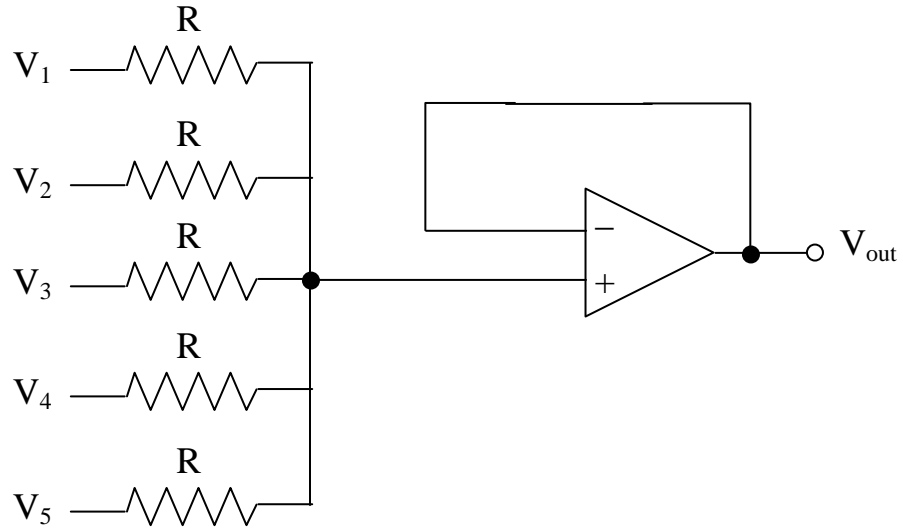

Figure 8a: Determine the output voltage in terms of the input voltages.
- Consider figure 8a. Perform an analysis similar to that above to determine the relationship between the input and output voltages.